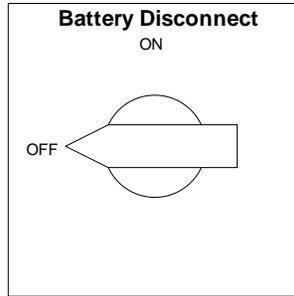
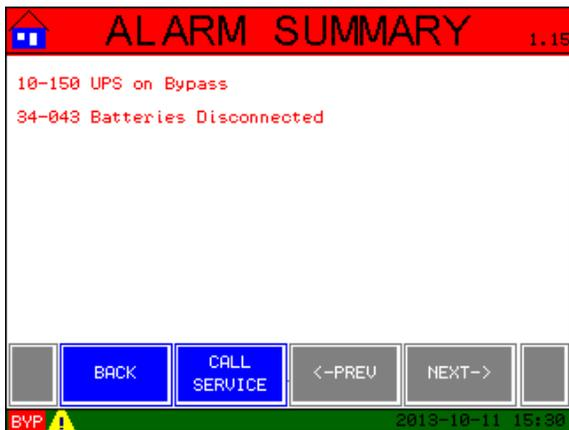

Fig. 4-18
Fig. 4-19
Step 3: Open the battery disconnect switch (Fig. 4-18) which is behind the hinged front door at the lower right side. An audible alarm will sound when the breaker is open. This alerts the user to the state of the battery breaker (Fig. 4-19 & 4-20).